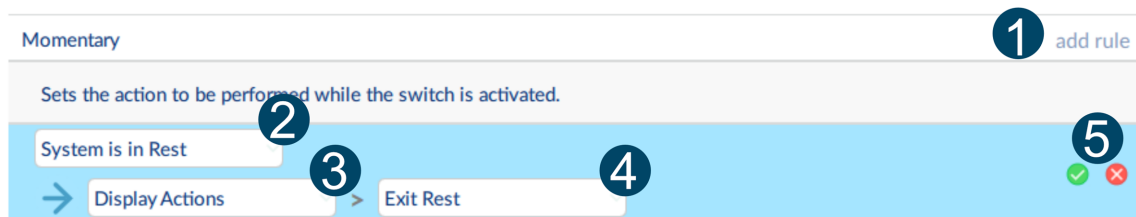

Figure 93: Configuring a conditional rule
1. Hover your mouse pointer over a control IO slot and click on the **add rule** button when it appears on the right-hand side of the slot *Figure 93* ①.
2. From the **conditions** drop-down menu, select a condition *Figure 93* ②.
3. From the first **output action** drop-down menu, which is on the left-hand side, under the **conditions** dropdown menu, select an output action *Figure 93* ③.
4. Click on the second and third output action drop-down menus (if available) to refine the output action *Figure 93* ④.
5. Click on the **Commit rule** button (check mark) to commit the rule *Figure 93* ⑤.